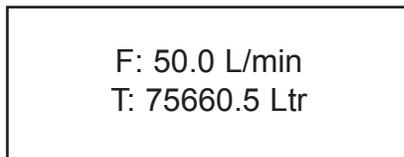

Figure b-4: GFM2 Main Screen
NOTICE After 6 minutes of the initial powering of the GFM2 transducer, the status LED will emit a constant GREEN light (normal operation, ready to measure). For GFM2 with LCD option, the screen will reflect flow and totalizer reading. (see Figure b-4).
4. Release maintenance push button after 6 seconds. For GFM2 with optional LCD, when GFM2 Main Screen appears (see Figure b-4).